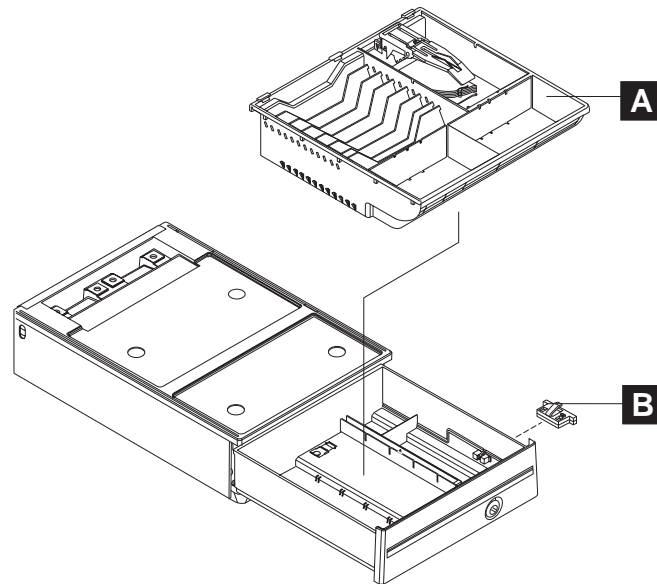

Figure 47. Install coin roll cutter
2. Remove the till (see **A** in Figure 47).